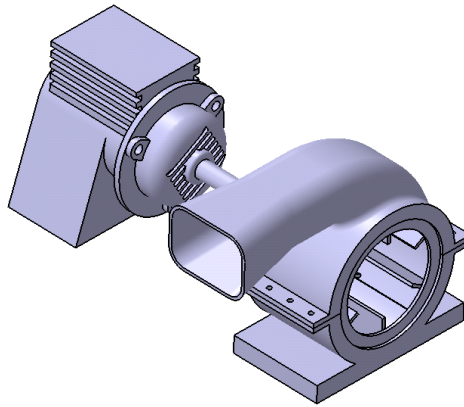

Figure 11-78 The final Blower assembly.
6. Select all constraints available under the **Constraints** heading in the **Specification Tree** and hide them. The Blower assembly is completed. The final assembly is shown in Figure 11-78.